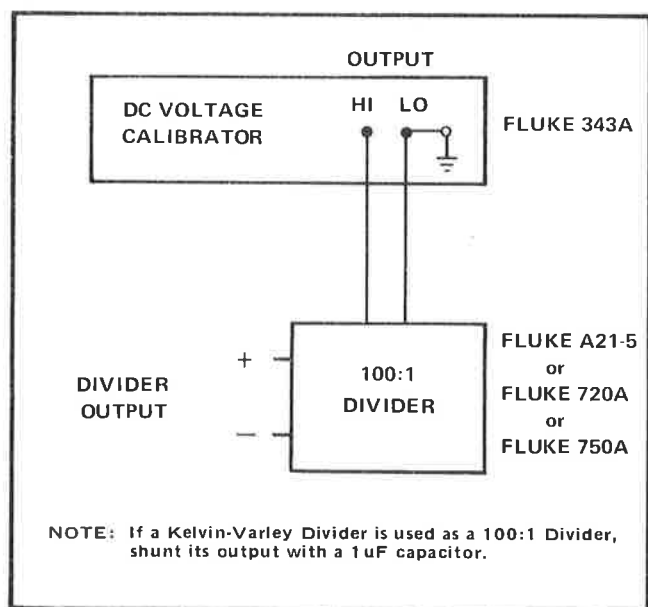

Figure 4-2. VOLTAGE DIVIDER—CALIBRATOR CONNECTION
- c. Connect a voltage divider to a dc voltage calibrator as in Figure 4-2. (See Table 4-1 for specifications.)
- a. Complete the equipment connections shown in Figure 4-2, by doing the following: